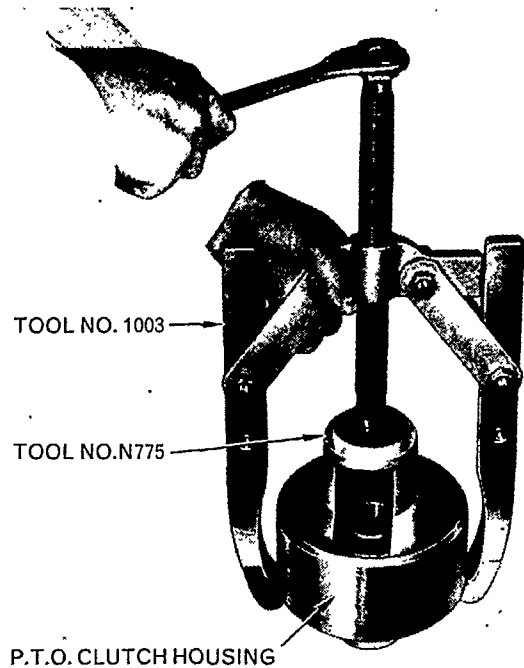

Figure 15
3. Using Tools 1003 and N775, compress the piston return spring as shown in Figure 15, and remove the retainer locating snap ring.